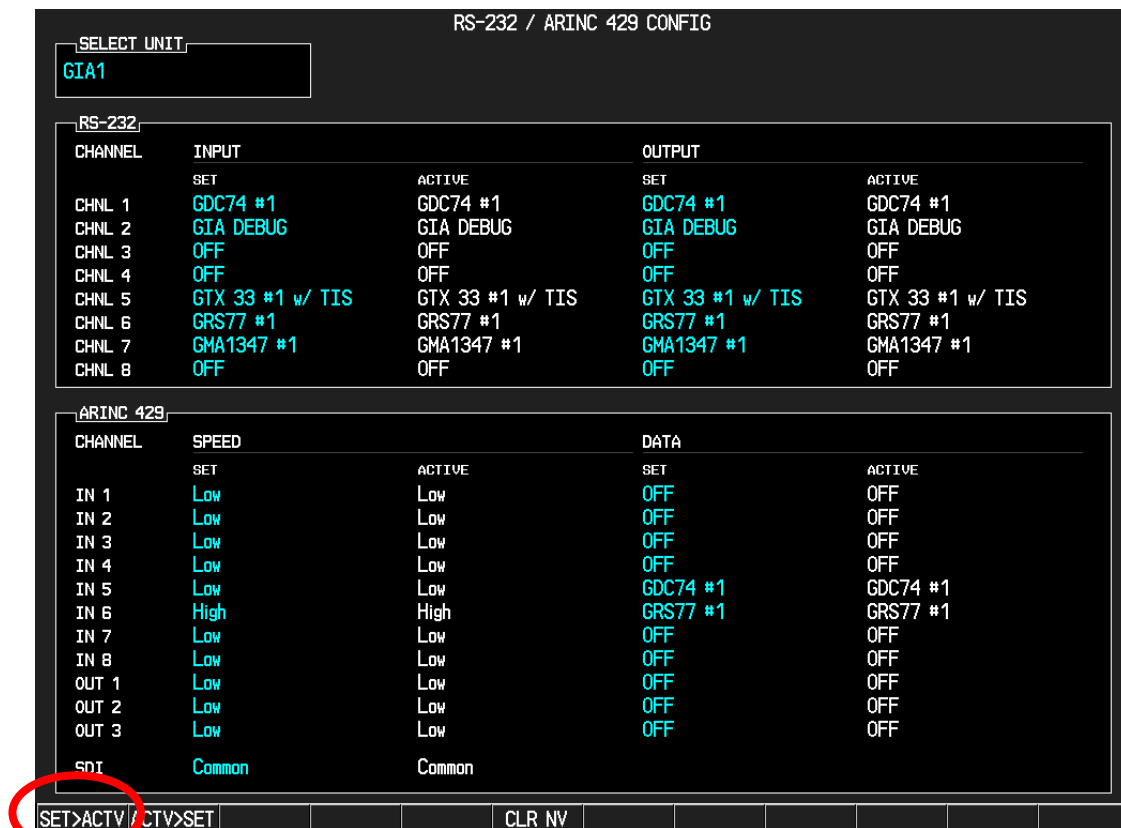

Figure 7-1. SET>ACTV Softkey Location
5. Press the SET>ACTV softkey in the lower left corner of the screen (see Figure 7-1).